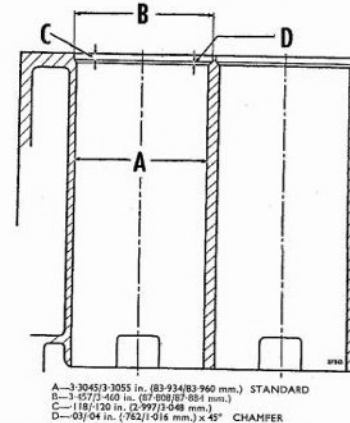

Fig. B.42. Dimensions for boring the cylinder block to accommodate cylinder liners
4. The outside diameter of standard liners is 3-3065/3-3075 in. (83-985/84-011 mm.), and to accommodate these liners the cylinder block should be bored to a diameter of 3-3045/3-3055 in. (83-934/83-960 mm.) (see Fig. B.42). It is imperative to strictly adhere to the dimensions given, thus the cylinder block will be bored out to suit the liners and the prescribed interference fit